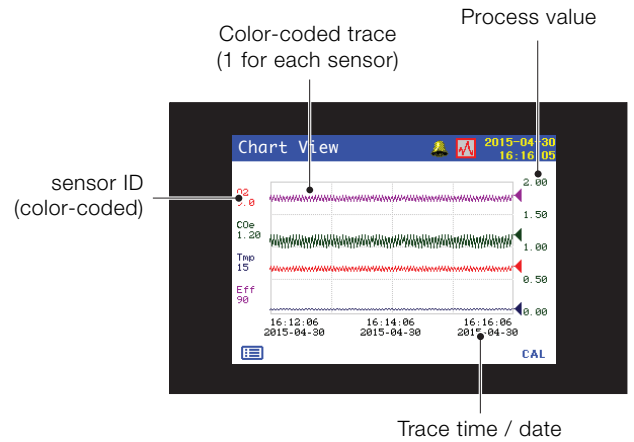

Fig. 30 Chart view
- *Chart view* – represents the sensor readings as a series of color-coded traces (see Fig. 30)